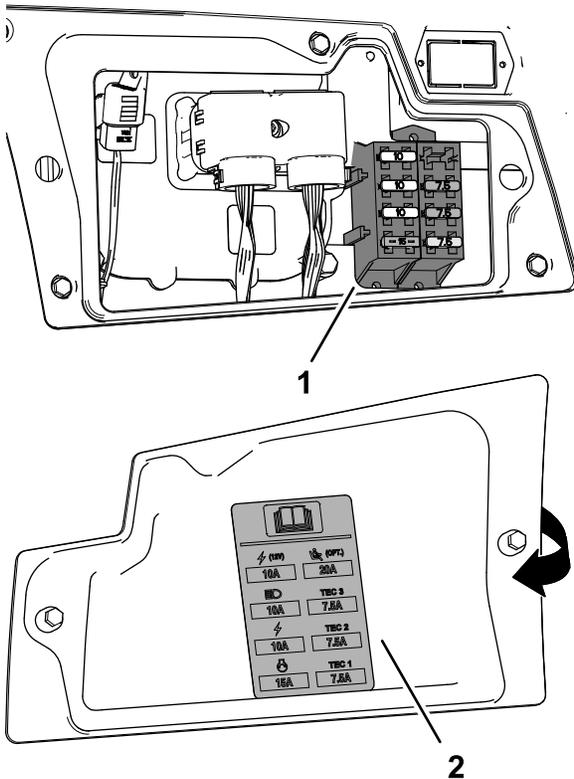

Figure 88
3. Replace the open fuse (Figure 88) with the same fuse type and amperage rating.